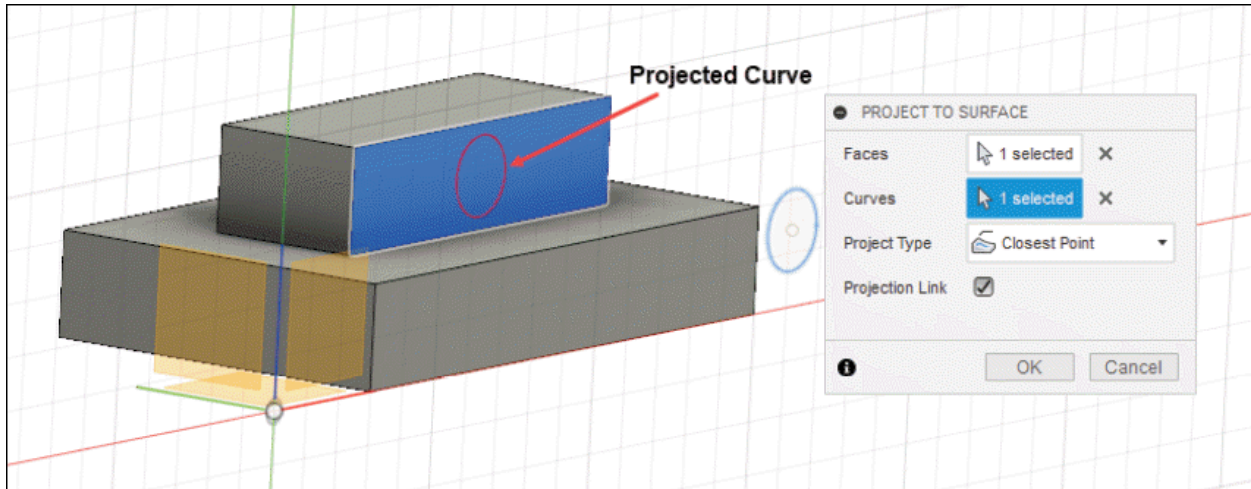
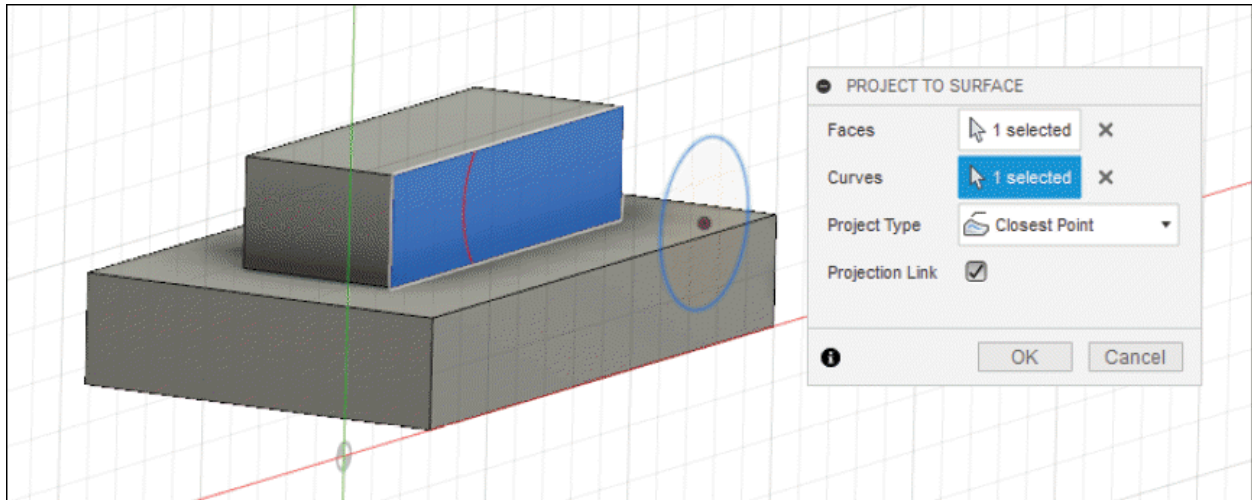
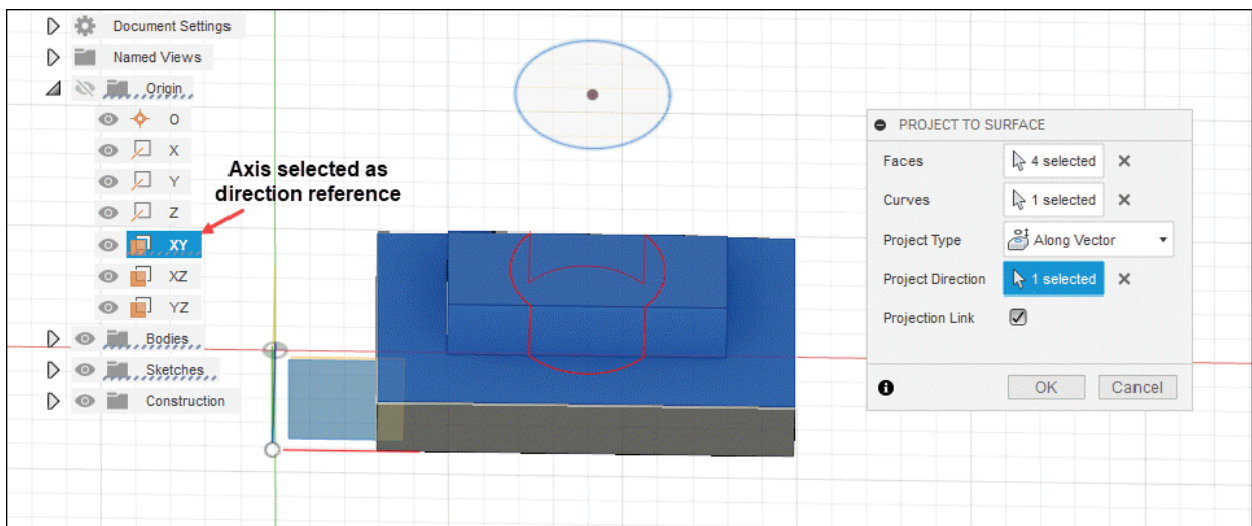

Figure-153. Preview of projected curve
Figure-154. Closest point projection
Figure-155. Projection along selected axis
- Click on the **Select** button for Curves from the dialog box and select the curves to be projected. Preview of projection will be displayed; refer to Figure-153.
- Select the **Closest Point** option from the **Project Type** drop-down if your object is well within the boundaries of selected face or you want to project along the surface vector to the closest point on the faces; refer to Figure-153. If some of the part of curve is outside the nearest surface then rest of the curve will not be projected; refer to Figure-154. Select the **Along Vector** option from the **Project Type** drop-down if you want to define the direction along which the curve will be projected and select a direction references like edge, axis, face, or plane. Preview of the projection will be displayed; refer to Figure-155.